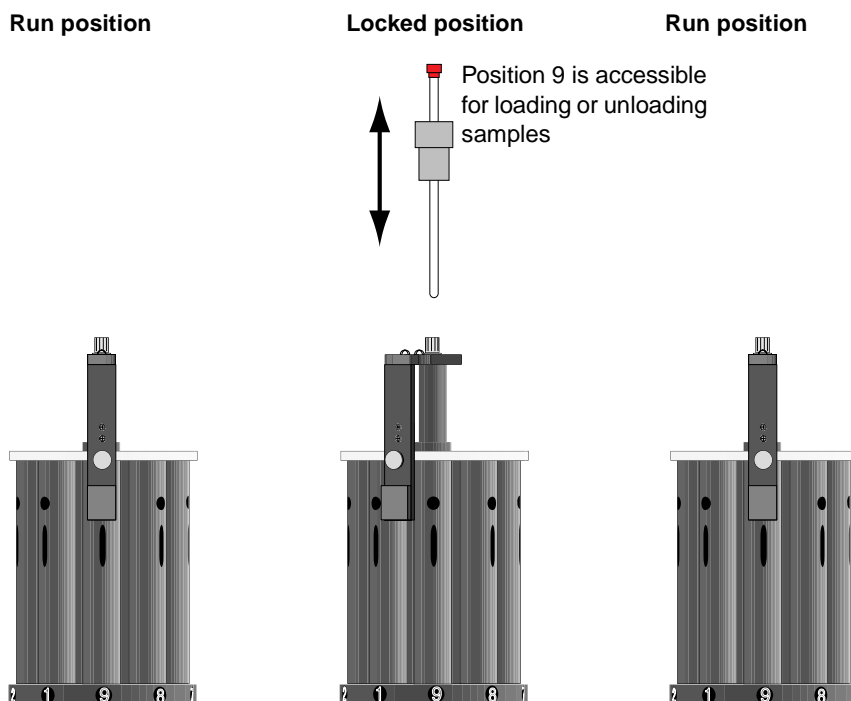

Figure 66. Manually Loading and Unloading Samples Through Position 1
3. If the sensor arm is over position 9, move it to the left until it stops between position 9 and position 1, as shown in **Figure 66**. You will notice some resistance moving the arm. Do not engage the locking pin.